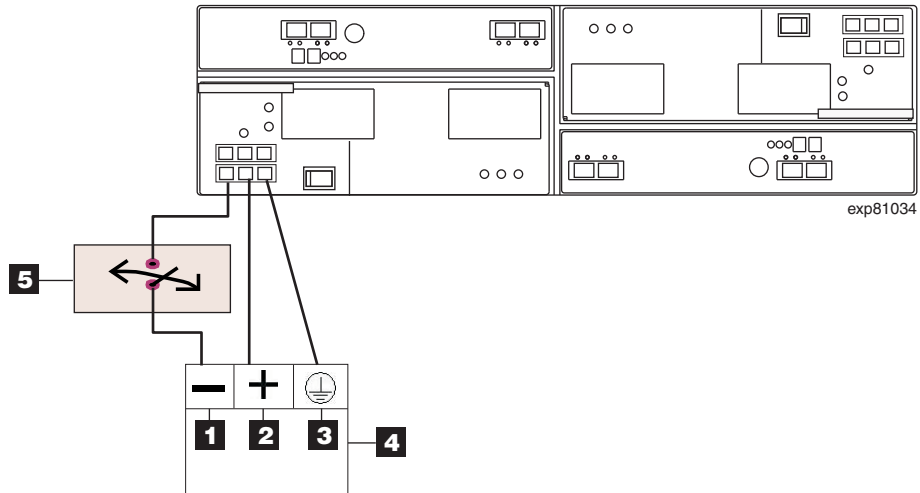

Figure 42. The dc wiring from EXP810 to disconnect device and dc power source
4. Complete the wiring from the disconnect device to the terminal marked -48V of the Reliably grounded safety extra low voltage (SELV) dc power source. Connect the POS RTN and ground lines of the dc power cable to the terminals marked POS RTN and GND on the dc power source, as shown in Figure 42. For maximum protection against power loss, connect each of the two dc power supplies to a different power source.